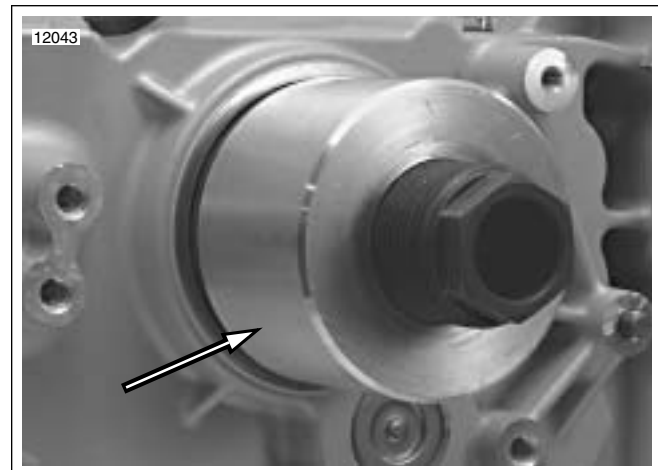

Figure 6-80. Place INSTALLER (Part No. HD-47856-1) over ADAPTER (Typical)
5. See Figure 6-80. Slide INSTALLER (Part No. HD-47856-1) over ADAPTER until cupped end of installer is flat against seal.